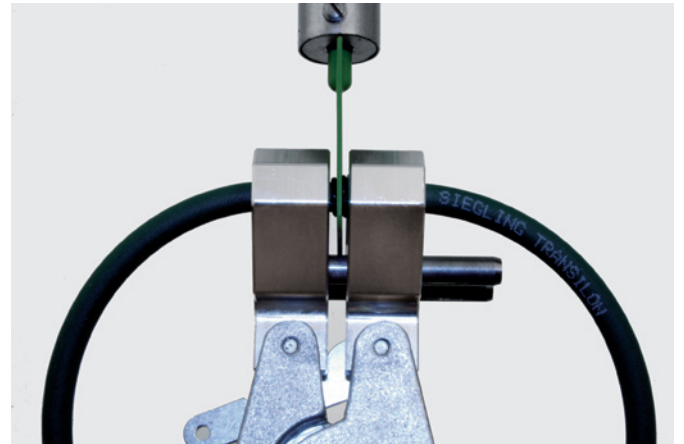

Fig. 13
- 13 **TIP:** The melting process can be observed better if the jointing clamp is turned! (Fig. 13)